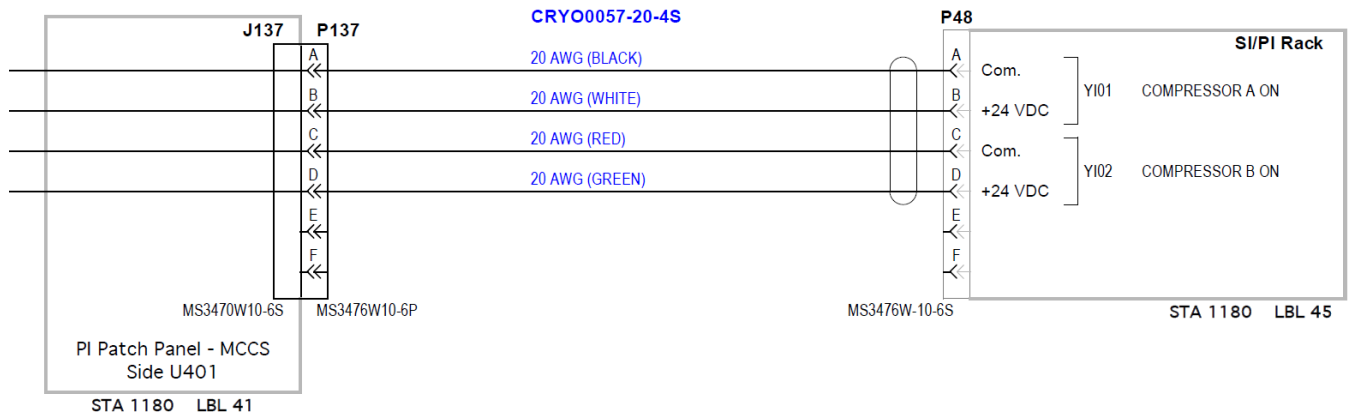

Figure 4.2.5.1-1 Compressor Run Status Discrete Interfaces (ref. NASA-SOF-DWG-SE02-4054)
- a) The Cryocooler System-to-SI Compressor Run Status discrete signal interface is defined at the PI Patch Panel U401 J137 receptacle, per Table 4.2.5-1. The contact assignments for these signals are depicted in Figure 4.2.5.1-1, below. SI-provided cables that interface with the U401 J137 receptacle shall be equipped with a MS3476W10-6P plug (P137) with an M85049/52S10 clamp and backshell.
Though the interface is formally defined at the U401 J137 connector, SIs that provide a MS3470W10-6P bulkhead receptacle on their PI Rack chassis for this interface may be able to make use of the Cryocooler-provided cable CRYO0057-20-4S, as shown above in Figure 4.2.5.1-1. It will have a length adequate to position the MS3476W-10-6S plug (P48) in most portions of the PI Rack.